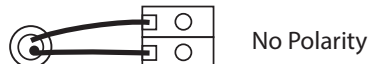

Figure 8
- The relay has both Normally Open (NO) and Normally Closed (NC) contacts available. The relay output is available on the NO/COM/NC terminal. Make connections before applying power as shown in Figure 8.